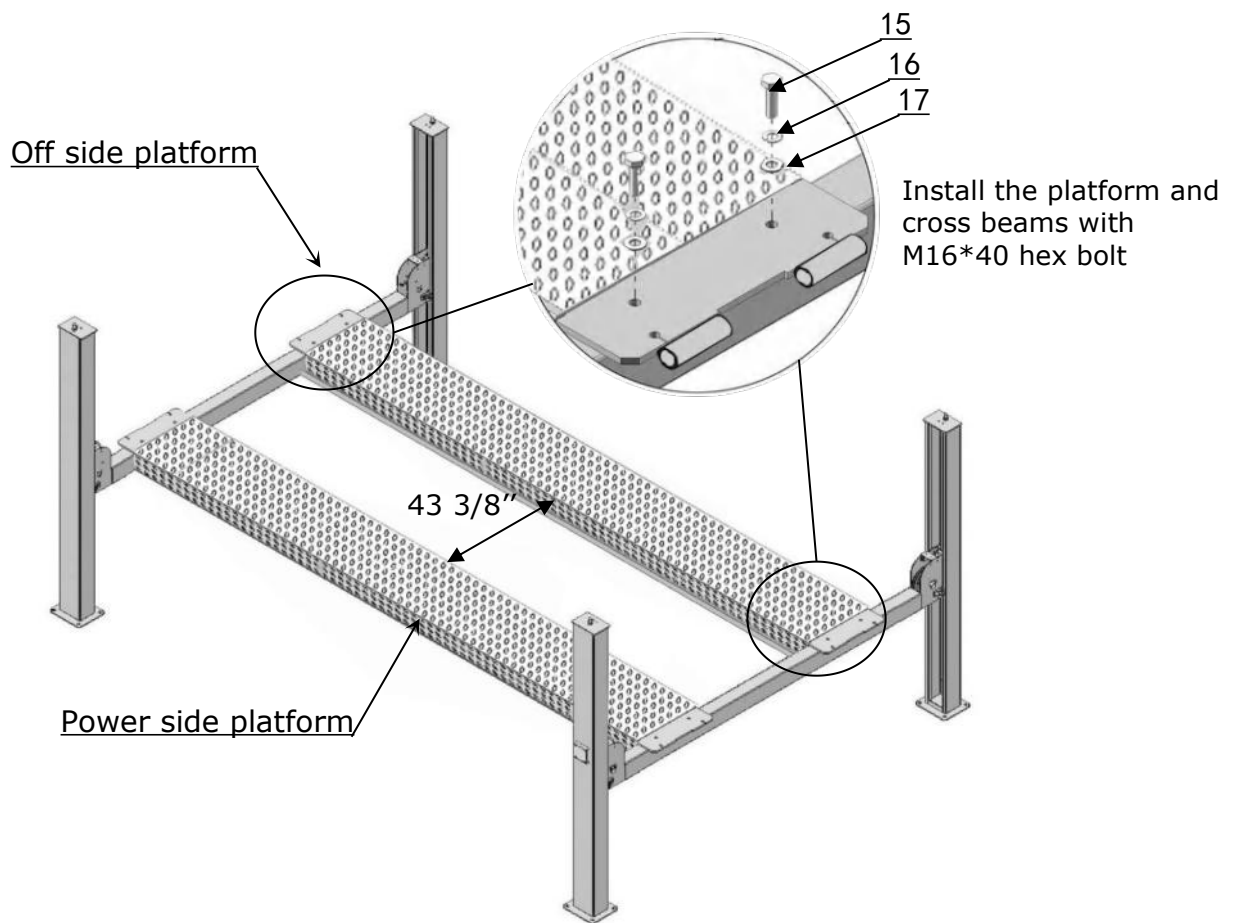

Fig. 23
2. In the same way, place the off side platform on cross beams, align the holes and tighten with bolts (See Fig. 23).